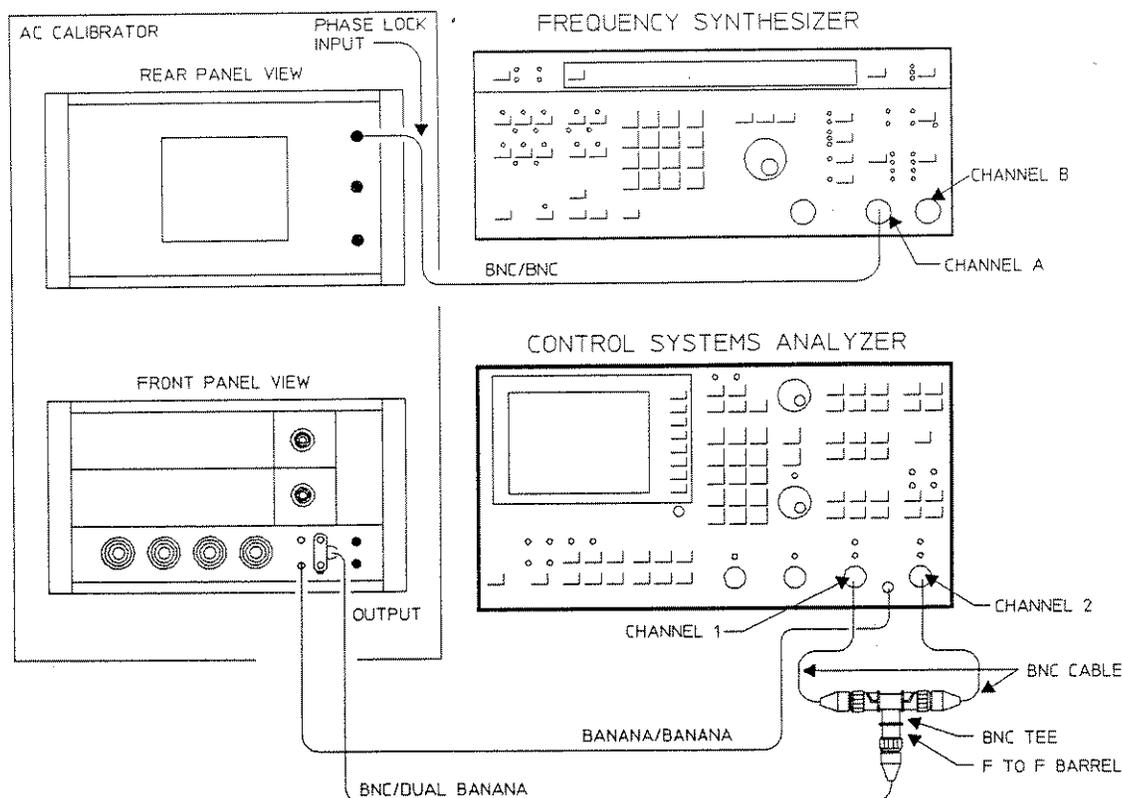

Figure 4-6. Amplitude Linearity Test Setup
1. Connect the test instruments as shown in Figure 4-6.